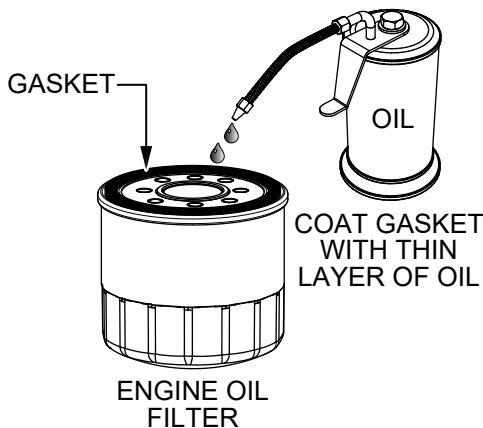

Figure 34. Lubricate New Oil Filter Gasket
- Lightly coat the **gasket** of the new oil filter (Figure 34) with clean engine oil.